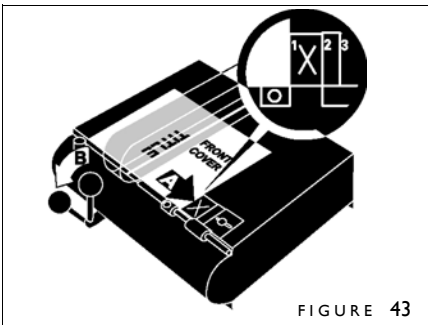

FIGURE 43
5. Bring the Lever upright to unclamp the cover. Slide your cover over so its right edge (A) stops against step 1 (figure 43). Push the Lever to the left (B) to make a score.